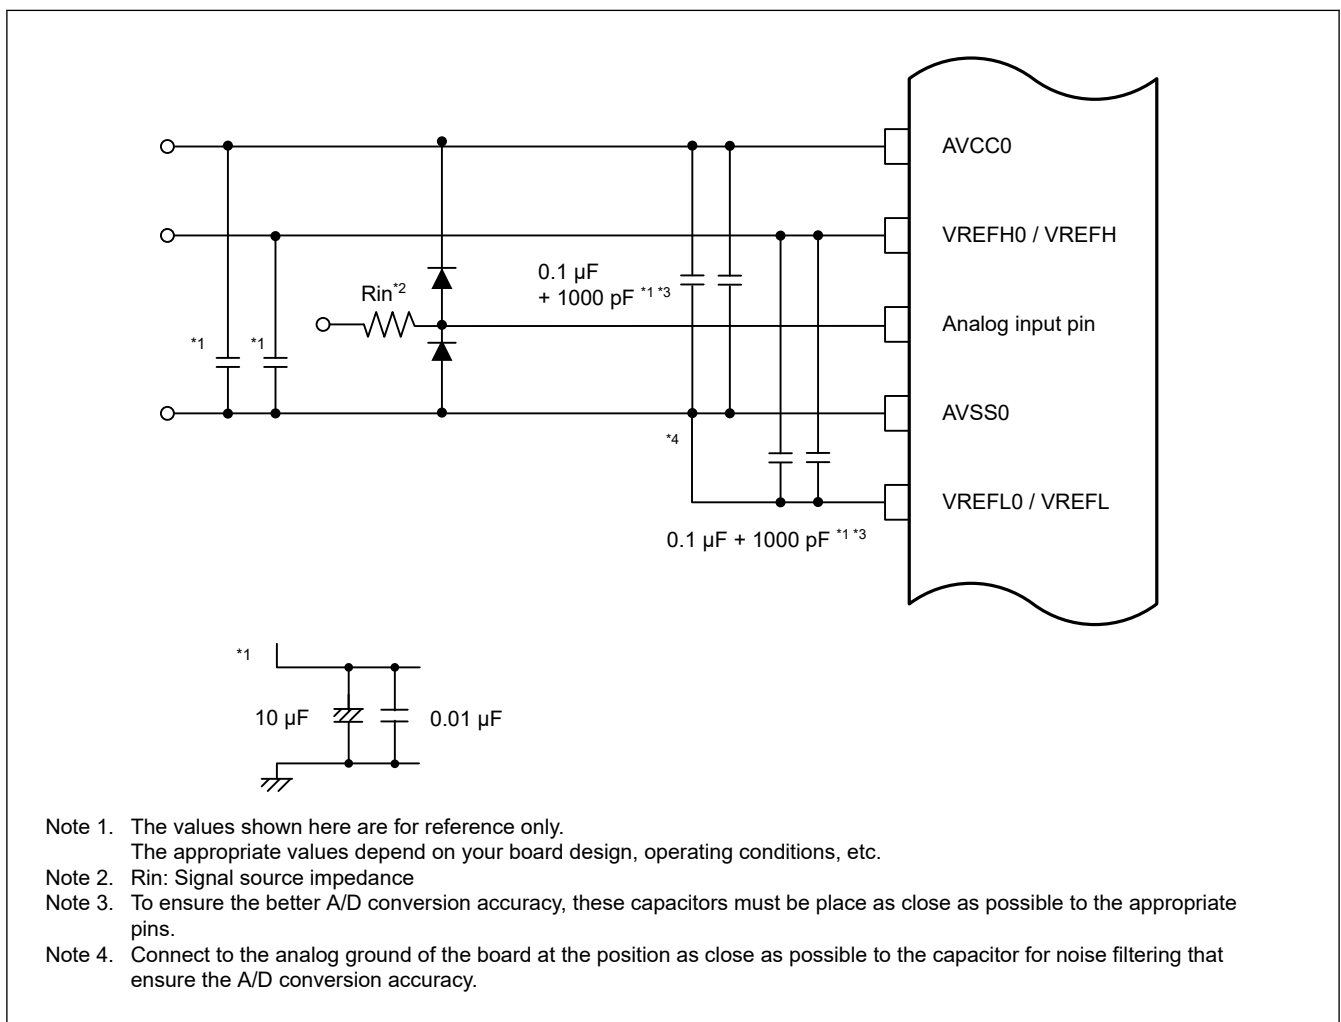

Figure 54.66 Example of protection circuit and noise prevention
An example of a protection circuit is shown in Figure 54.66.
- Place a capacitor for noise filters between analog power supply pin and the ground pin and between analog reference voltage supply pin and the ground pin close to the pin and connect them. Also, connect AVSS0, VREFL0 and VREFL pins to the analog ground on the board as close to the pins as possible. An example of connection is shown in Figure 54.66.